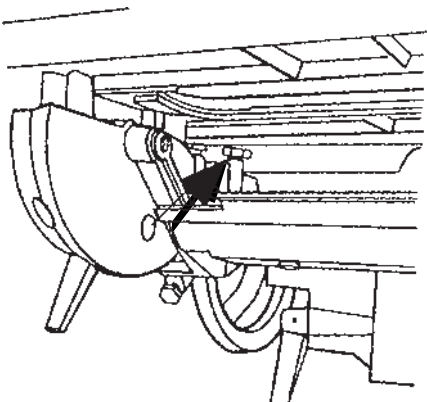

Figure B-57
14. Both 90° stops (shown in Figs. B-57 and B-58) should contact the underside of the table. If they don't, use a 1/2" wrench to adjust the stops.